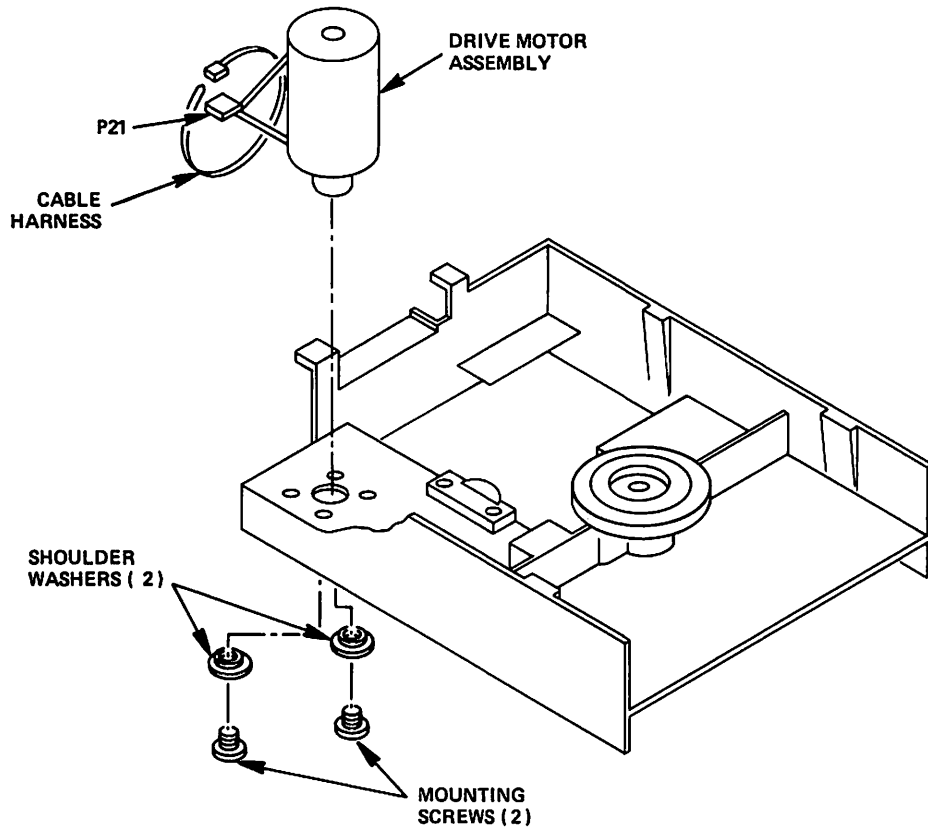

Figure 5-18
- 5.10.5 With a Phillips screwdriver, remove the two (2) mounting screws and the two (2) shoulder washers that attach the Drive Motor Assembly to the chassis (see Figure 5-18).
- 5.10.11 Plug Connector P21 into the Servo PCBA (see Figure 5-18).